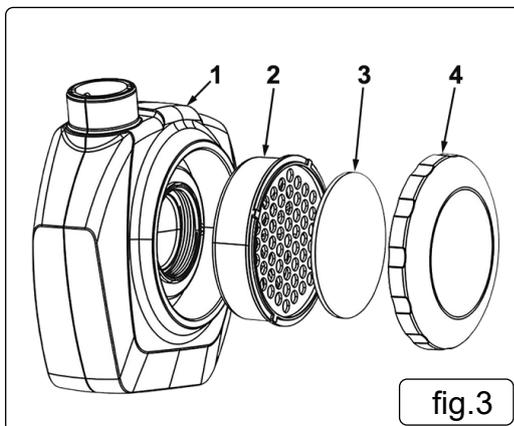

fig.3
4.4.1. Remove the filter cover, SSP80PAPR.F04 (fig 3 - 4).
4.4.2. Install the filter, SSP80PAPR.F, (fig 3 - 2) into the filter body, SSP80PAPR.F01, (fig 3 - 1) and lock into position by screwing clockwise until secure.
4.4.3. Install the foam filter, SSP80PAPR.F03, (fig 3 - 3) above the filter, SSP80PAPR.F, (fig 3 - 2).
4.4.4. Push fit the filter cover, SSP80PAPR.F04, (fig 3 - 4) until it "clicks" into position.